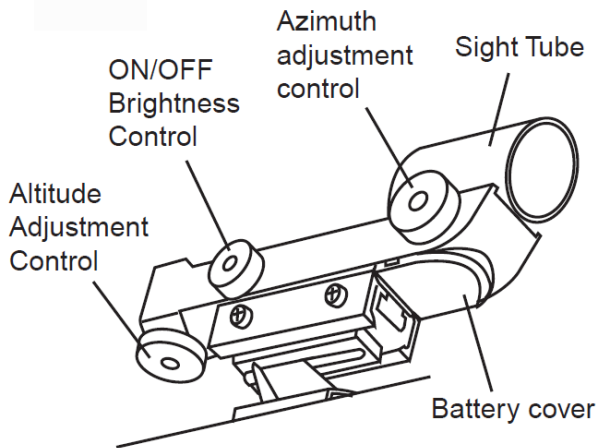

Fig.23
- The Red Dot Finder is a zero magnification pointing tool that uses a coated glass window to superimpose the image of a small red dot onto the night sky. It is equipped with a variable brightness control, azimuth adjustment control, and altitude adjustment control (Fig.23). The red dot finder is powered by a 3V lithium battery located under a removable cover. When new, this battery may be protected by plastic strip which should be removed before use. To use it, simply look through the sight tube and move your telescope until the red dot merges with the object. Make sure to keep both eyes open when sighting.
- Like all finderscopes, the red dot finder must be properly aligned with the main telescope before first time use. This is a simple process using the azimuth and altitude control knobs (fig. 23).